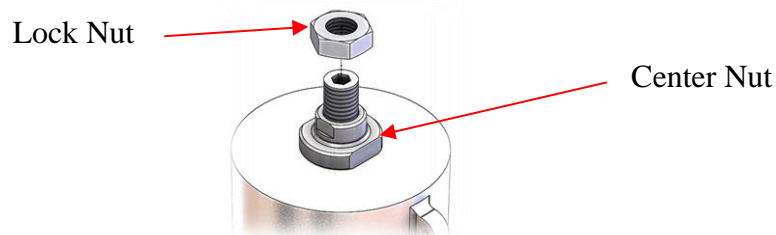

Figure 19: 2" Upper Bonnet Components
11. If not already done, unscrew the lock nut and set it aside. See Figure 19.